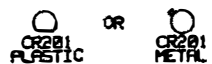

FIG. 6-4 COMPONENT LOCATION CONVERTER BOARD
3. Defective +5V supply on converter board, Fig. 5-11. CR201 or VR201. Refer to Fig. 6-4.